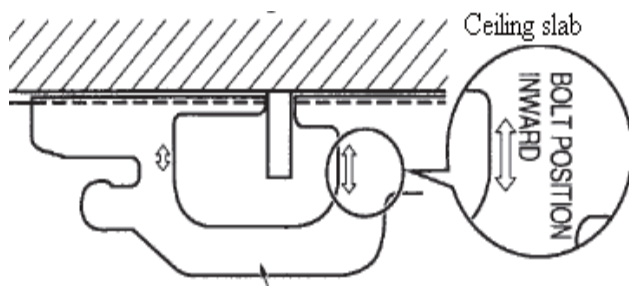

Figure 1-2-3 Hanger bracket
- Make sure that extended suspension bolt from the ceiling stays inside the arrowed position. Readjust the hanger bracket when it is outside the arrowed position. (Refer to Figure 1-2-3)